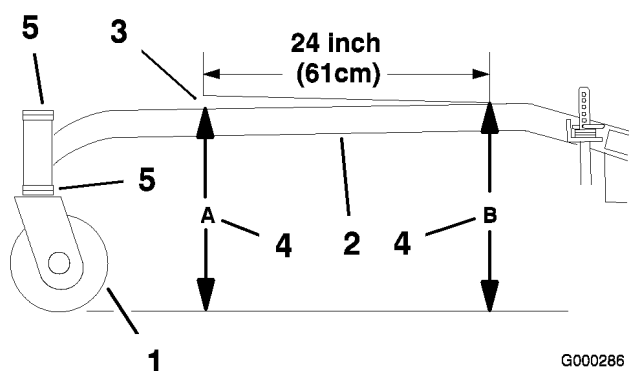

Figure 58
The carrier frame must have a pitch of a 1/4 inch (6 mm) over the length of 24 inches (61 cm) on the carrier frame (Figure 58).
1. Measure out 24 inches (61cm) on the carrier frame (Figure 58).
- Measure carrier frame height at location **A** (Figure 58).
- Measure carrier frame height at location **B** (Figure 58).
- The height at location A must be a 1/4-3/8 inch (6 mm -10 mm) lower than location **B** (Figure 58).
- If the carrier frame is not correct, move caster spacers to make it a 1/4-3/8 inch (6 -10 mm) pitch (Figure 58). Move spacers from top or bottom to make the correct pitch.